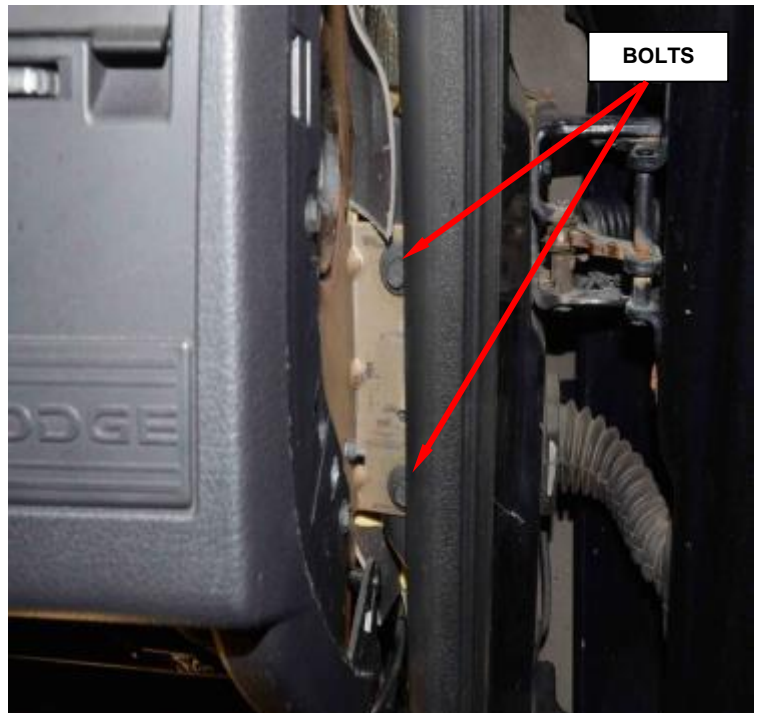

Figure 91 - Right Side Support Bolts
32. Remove the right side support bolts and with the help of another person, remove the instrument panel assembly from the vehicle and place on a soft clean surface (Figure 91).